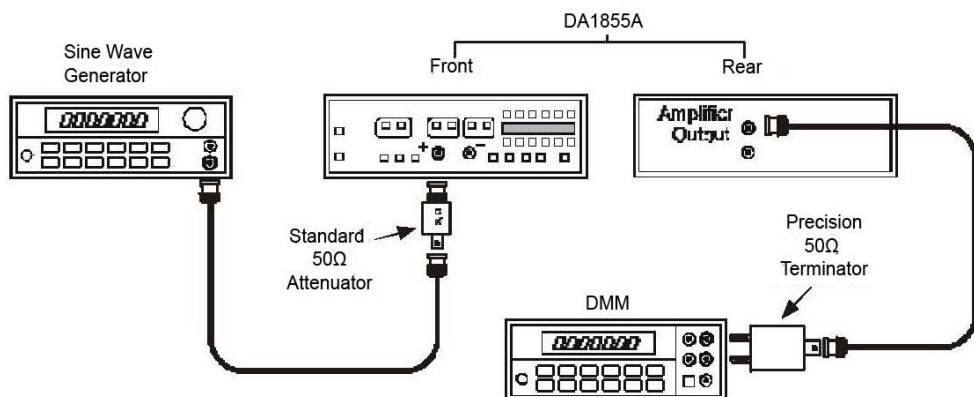

Figure 15, ± 10 Attenuator Accuracy Setup.
- Connect the DA1855A **AMPLIFIER OUTPUT** cable/precision termination to the DMM. Refer to Figure 15.